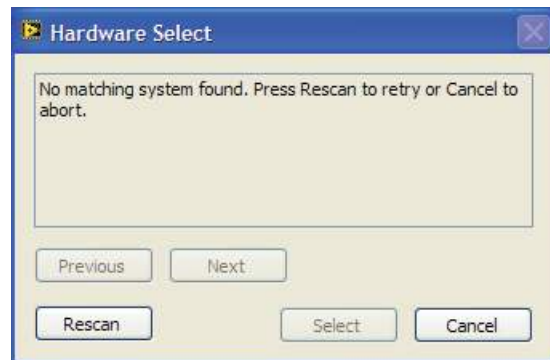

Figure 8. Pop-Up Window Error
2. If the SDP board is not connected to the USB port when the software is launched, a connectivity error is displayed (see Figure 8). Connect the evaluation board to the USB port of the PC, wait a few seconds, click **Rescan**, and follow the instructions.